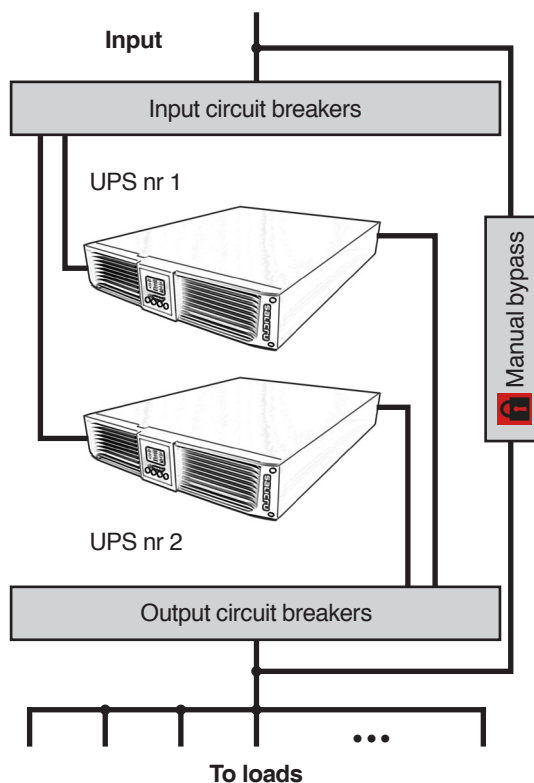

Fig. 16. Parallel installation of two TWIN RT UPSs from 4 to 10 kVA, with protection and manual bypass panel.
- The installation of the parallel systems, has to be provided by a switchgear panel with individual protections for input, output and static bypass (this last one, in those installations that uses the second line only), also a manual bypass with mechanical lock, see figures 16 and 17.
- Figures 16 and 17 shows a manual bypass panel for a parallel system, in a conceptual way (4 to 10kVA models only), valid for a single equipment by adapting the quantity of switches.